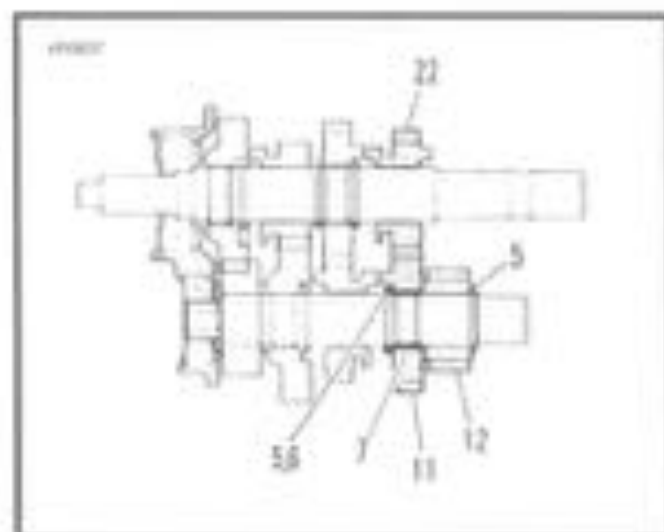

Figure 6-41.
15. See Figure 6-41. Install retaining ring (5) and thrust washer (6). Install split bearing (7) into seat next to thrust washer (6).
16. Install countershaft 2nd gear (11) over bearing (7).
17. Install mainshaft 2nd gear (20) onto shaft.
18. Install countershaft 5th gear (12).
19. Expand retaining ring (5) and slide into groove next to countershaft 5th gear (12).